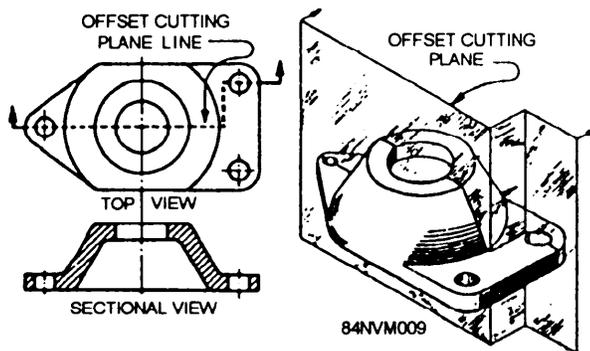

Figure 13-9.—Offset section.
**Offset Section.**—An offset section is a section view that has the cutting plane changing directions. The cutting view plane changes direction to pass through features that are important to show. Figure 13-9 shows